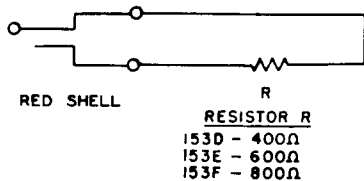

Fig. 4—153-Type Plug
2.04 **153D, E, and F:** The 153-type plugs (Fig. 4) are provided with resistances which bridge across the tip and sleeve springs of the jacks when the plugs are inserted. The 153-type plugs are used with the 99-, 215-, and similar-type jacks.